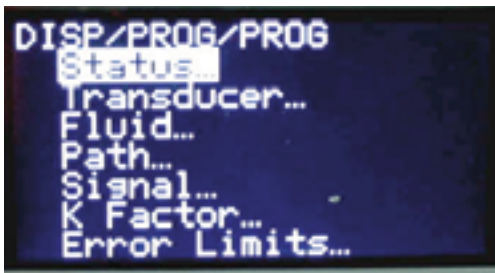

Figure 44: The PROG menu
3. Use the [△] and [▽] keys to scroll to the desired channel and press [ENT]. The screen appears similar to *Figure 44* below.